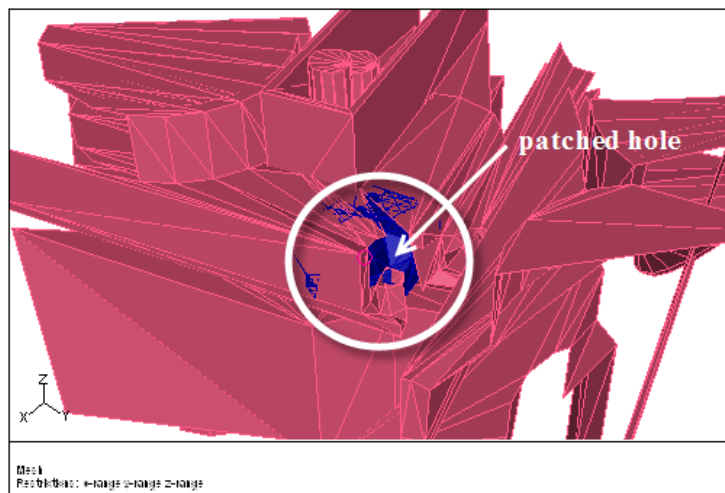

Figure 7.21: Hole Fixed Using the Automatic Hole Fixing Option
- (d) Click Display (Figure 7.21).